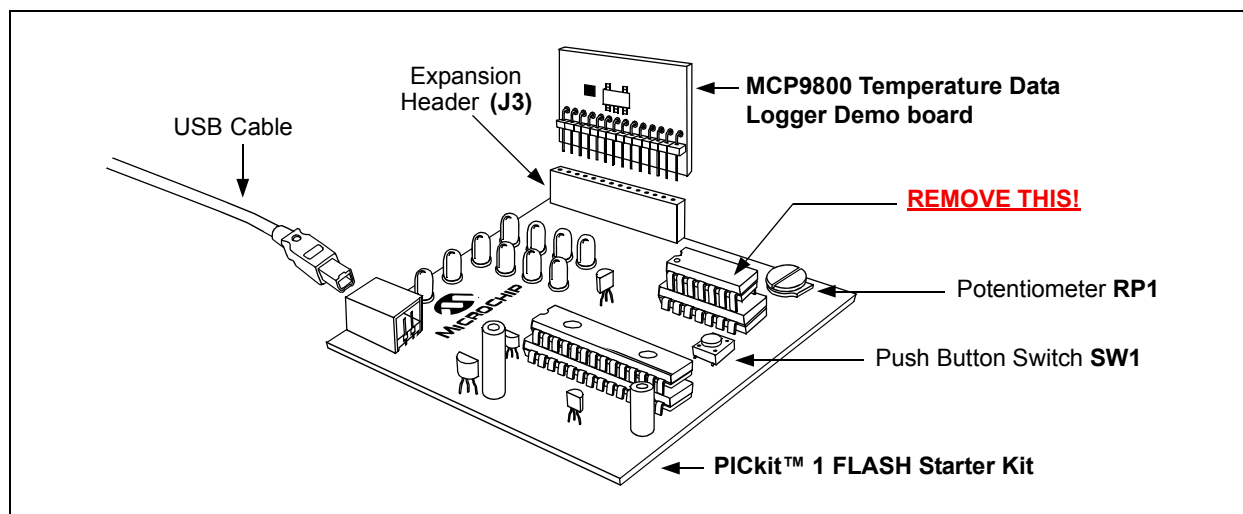
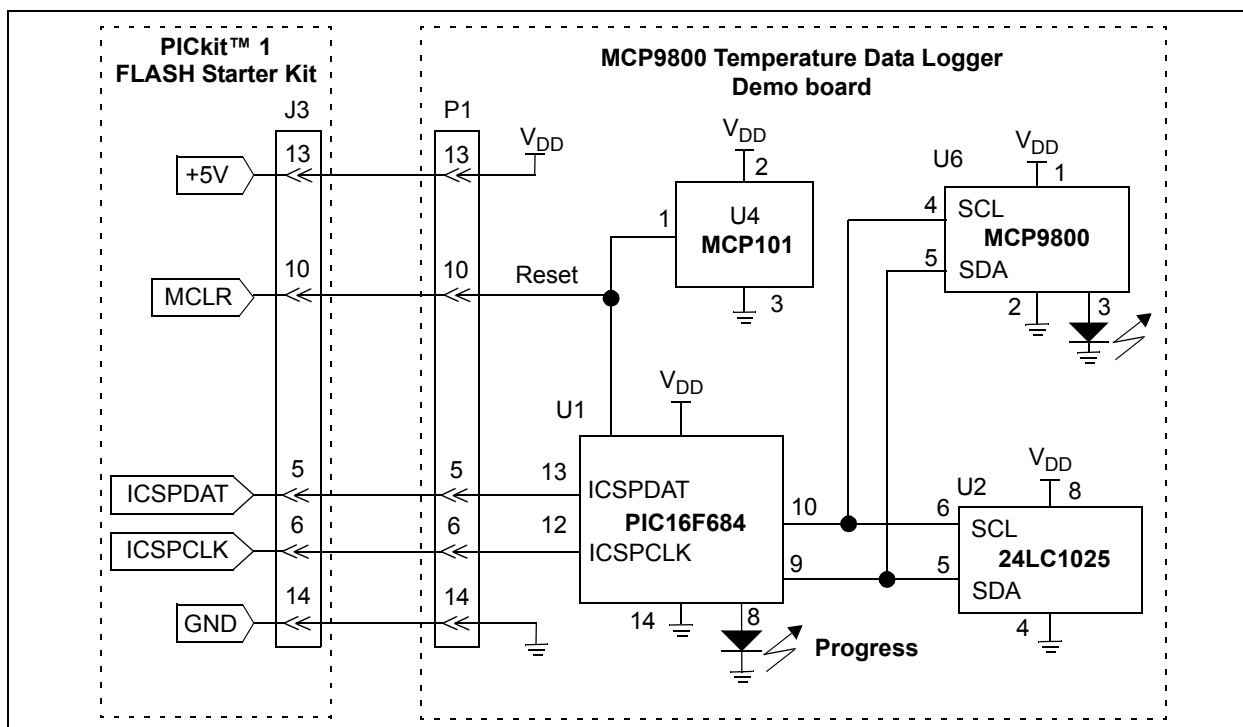

FIGURE 2-2: MCP9800 PICtail™ Daughter Board and PICKit™ 1 FLASH Starter Kit.
FIGURE 2-3: Simplified MCP9800 PICtail™ Daughter Board Schematic.
1. Connect the P1 header of the MCP9800 Temperature Data Logger Demo board to the J3 connector on the PICKit™ 1 Flash Starter Kit board. Refer to Figure 2-2 for proper orientation of the MCP9800 Temperature Data Logger Demo board and Figure 2-3 for a simplified board schematic.